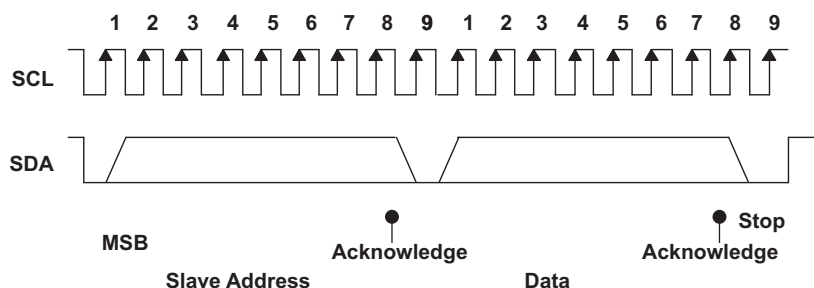

Figure 12. I²C Address and Data Cycles
- The master generates further SCL cycles to either *transmit* data to the slave (R/W bit 1) or *receive* data from the slave (R/W bit 0). In either case, the *receiver* needs to acknowledge the data sent by the *transmitter*. So, an acknowledge signal can either be generated by the master or by the slave, depending on which one is the receiver. The 9-bit valid data sequences consisting of 8-bit data and 1-bit acknowledge can continue as long as necessary (see Figure 12).